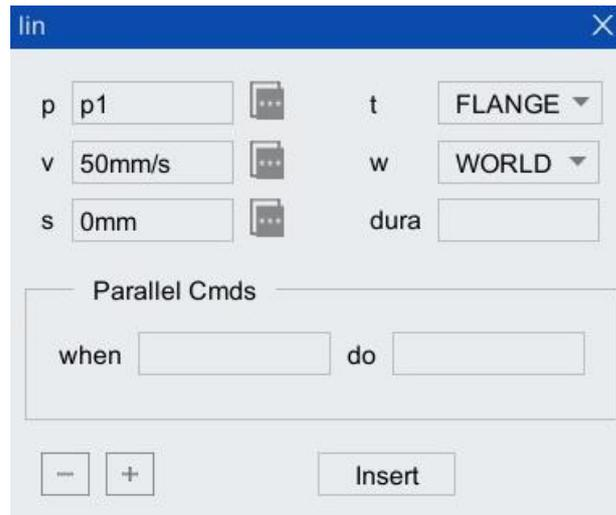

Figure 5-24 "lin" Instruction configuration interface
Step1.Click "lin" icon in the toolbar of the program editor to pop up "lin" instruction box, as shown in Figure 5-24.
Step6.Click the <Insert> button in Figure 5-24, and the instruction is inserted successfully.